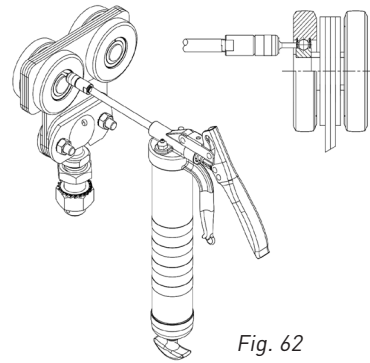

Fig. 62
- Annually, regrease the ball bearings of all trolleys and flight bars using a hand grease gun, through the hole located on the bearing's seal/shield, as shown below in fig. 62.